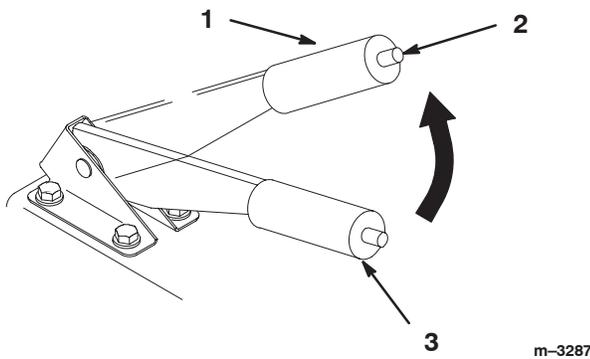

Figure 8
2. Pull up on the parking brake lever to set the parking brake (Fig. 8). The parking brake lever should stay firmly in the set position.
1. Push in on the button and lower parking brake lever to off (Fig. 8).